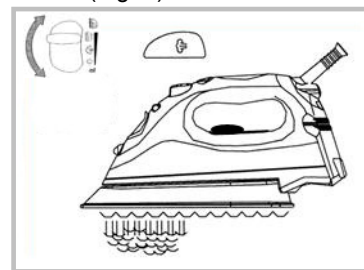

Fig. 2
4. Turn the temperature dial to any of the temperatures within the steam band and allow the iron to heat for approximately two (2) minutes before ironing. Place iron on its heel (on a stable, protected surface) while the iron is warming to desired temperature.
5. Turn the variable steam control dial to the right to increase the amount of steam. When using extra steam, the iron uses more water and it may be necessary to fill the water tank more often. (Fig. 2)